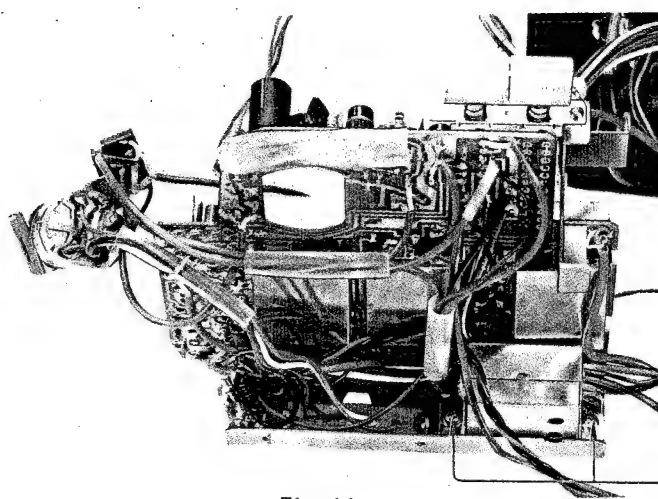

Fig. 11
2. Remove the two screws (① in Fig. 11).